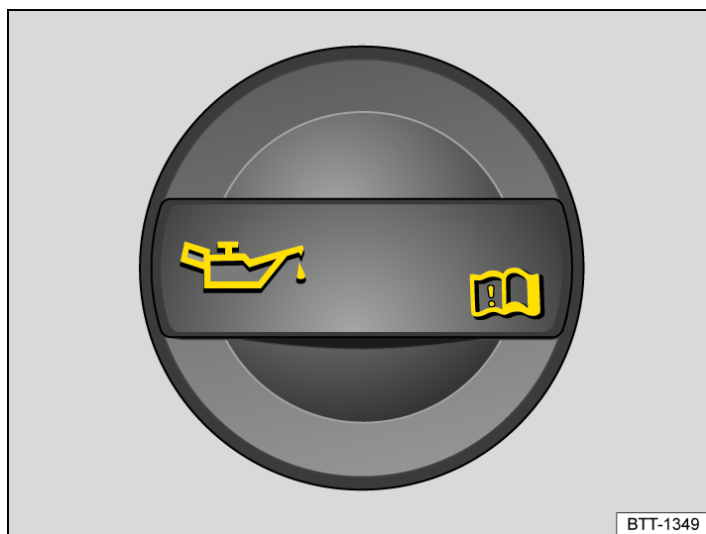

Fig. 2 In the engine compartment: engine oil filler cap (illustration).
4. Identify the engine oil filler cap and oil dipstick. The engine oil filler opening can be recognised by the symbol  on the cap and the oil dipstick has a coloured handle → Fig. 2. If you cannot find the cap and oil dipstick, please contact a qualified workshop.
9. Unscrew the engine oil filler opening cap → *Fig. 2*.